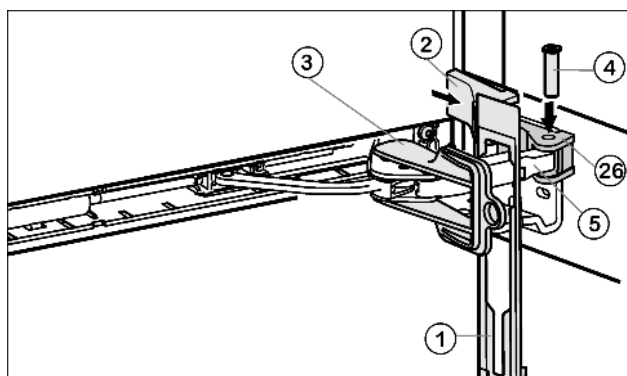

Fig. 10
- ▶ Attach the faceplate Fig. 10 (1) to the soft stop bracket so that the catches face forwards and the front faces the appliance.
- ▶ Draw the soft stop bracket Fig. 10 (5) towards the bearing part Fig. 10 (26) and re-insert the pin Fig. 10 (4) from above so that the square sits in the recess.
- ▶ Attach and engage the cover Fig. 10 (2).
- ▶ Twist the safety lock Fig. 10 (3) for removal.
- ▶ Snap the faceplate Fig. 10 (1) onto the door.